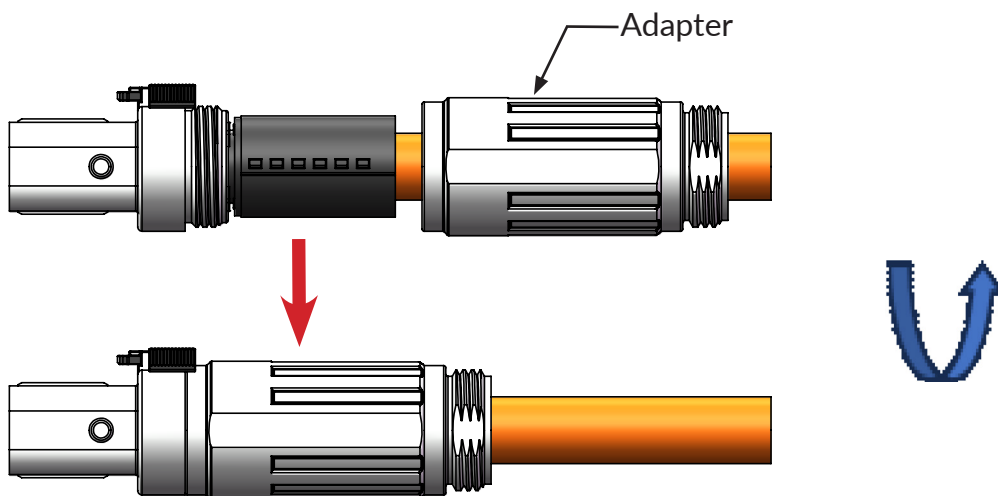

Figure 15
2) As figure 15 shown, tighten the adapter to pulg shell with 31mm spanner, recommended torque is 6~8N.m;